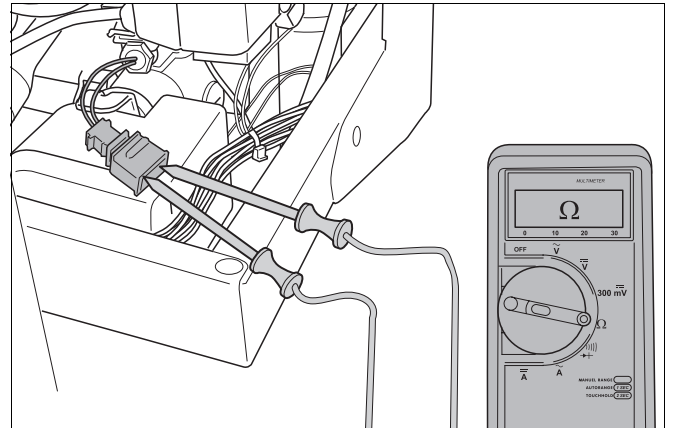

fig. 77 Measure resistance return sensor
- Measure the resistance of the return sensor (see fig. 77).